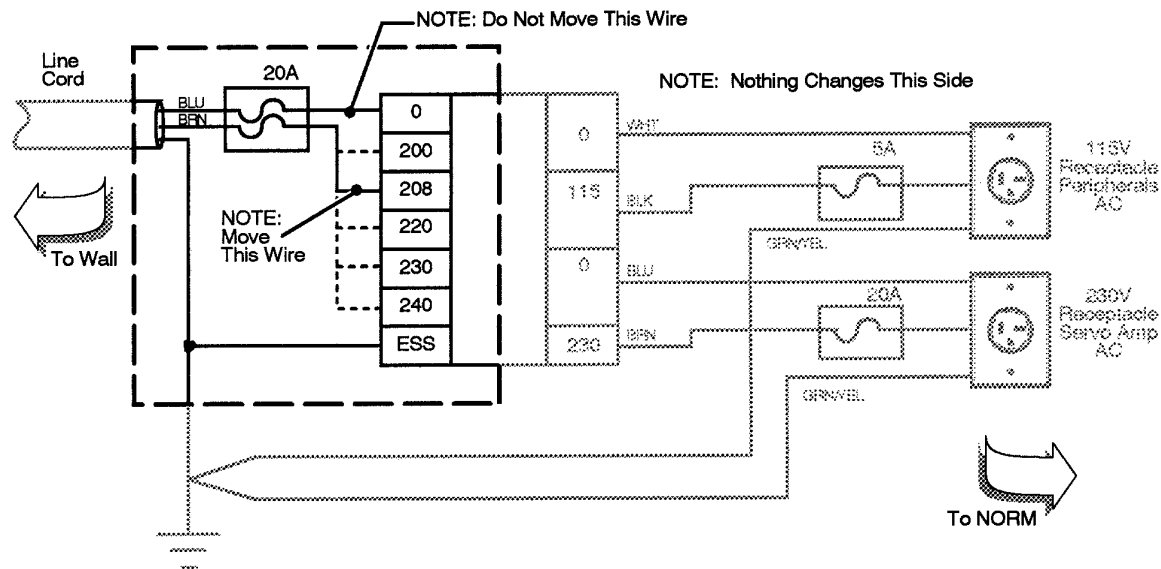

Figure 2-3. Isolation Transformer Wiring Configuration Diagram and Chart.
Figure 2-3. Isolation Transformer Wiring Configuration Diagram and Chart.	2-5
Ensure the voltage reading is within the acceptable range for the installation site nominal voltage. If it differs, refer to the diagram and chart in *Figure 2-3* to select the correct wiring configuration for the transformer.
4. Make the necessary changes as shown in *Figure 2-3* using the chart as a guide.